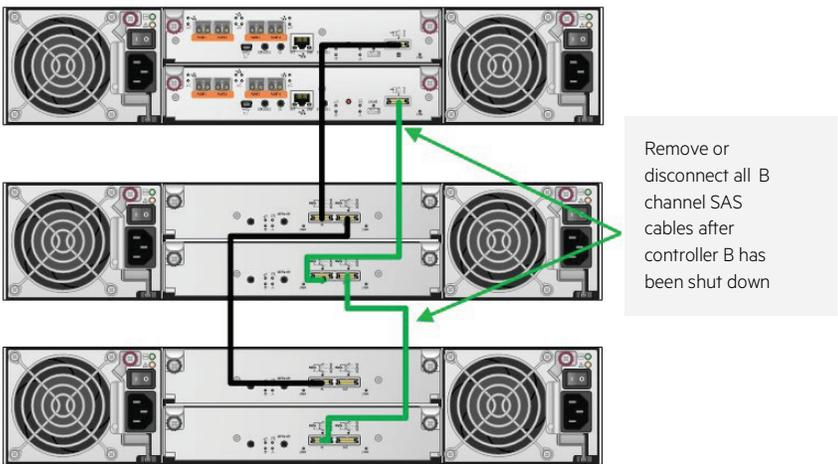

Figure 31. Straight-through cabling configuration
5. Remove existing cabling from the B channel chain as indicated in **Figure 31**.